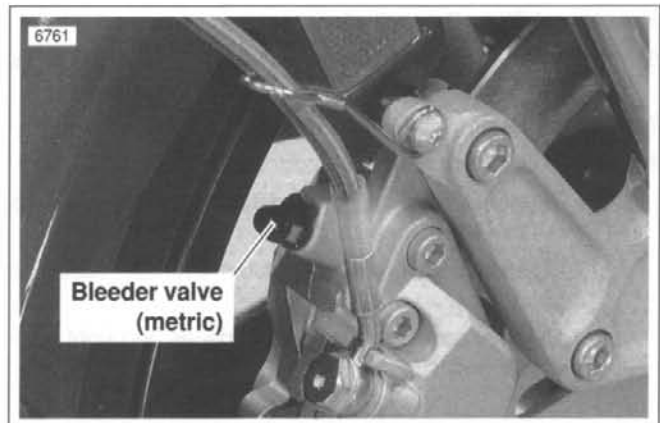

Figure 1-26. Front Brake Caliper Bleeder Valve
- a. Front brake caliper bleeder valve-Figure 1-26.